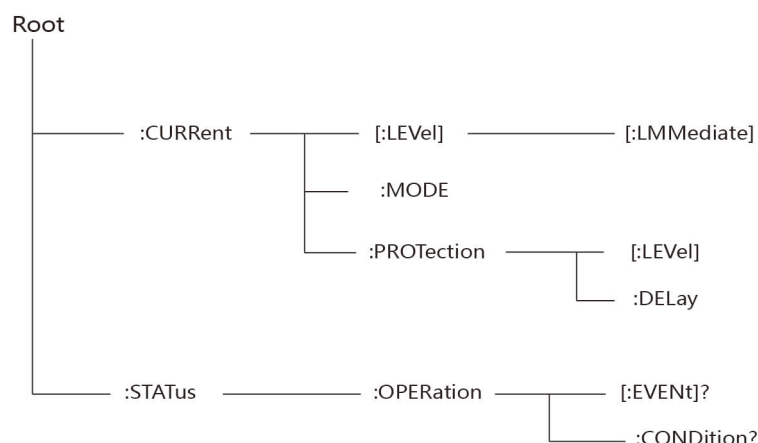

Fig. 1-1 Command Tree
**Subsystem commands:** Subsystem commands focus on specific functions of the electronic load. They are organized into an inverted tree structure with the “ROOT” at the top. Fig. 1-1 shows a part of a subsystem command tree. You can operate all kinds of commands according to the structure.